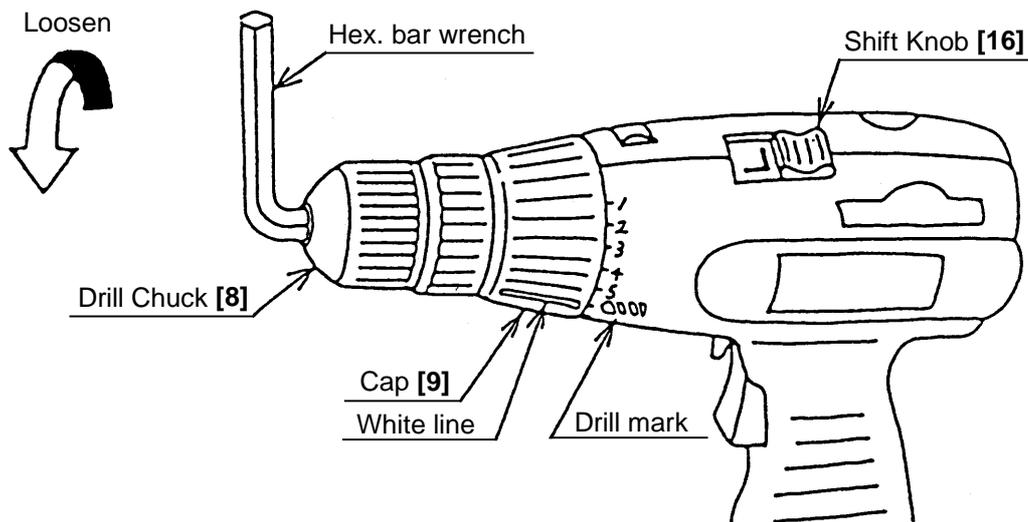

Fig. 7
(1) Removal of the Drill Chuck **[8]**: (Fig. 7)